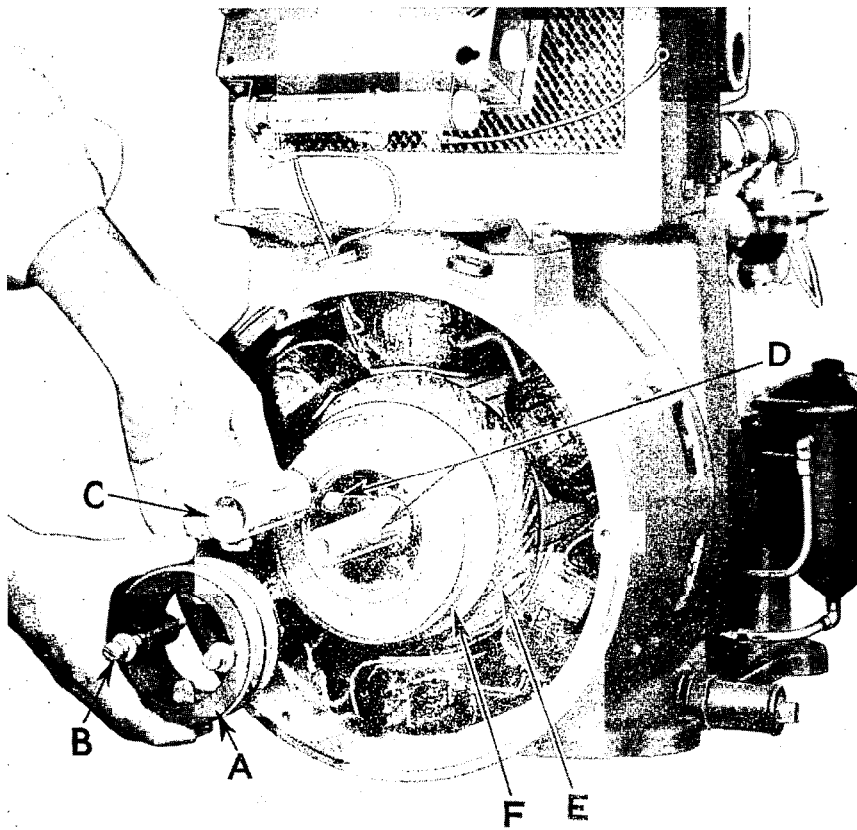

Figure 29
a. Collector Rings (Fig. 29). Collector rings may wear excessively due to brush sparking, excessive brush holder spring tension, or a stuck or binding brush. If they do, replace them. To remove collector rings: